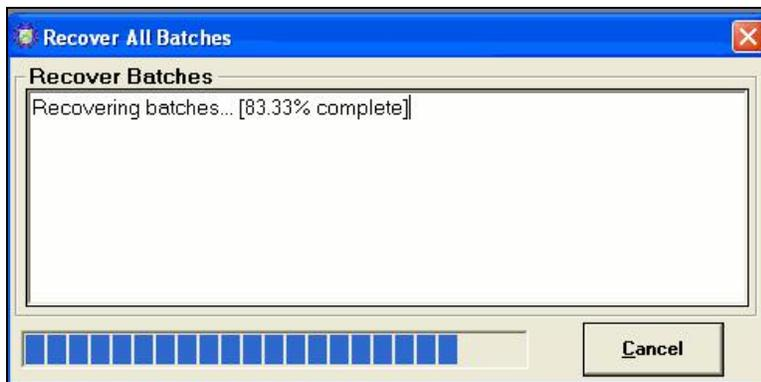

Figure 3.34
16. Click **'Yes'** to accept the batch recovery function. The following window appears and displays the percentage complete (Figure 3.34)